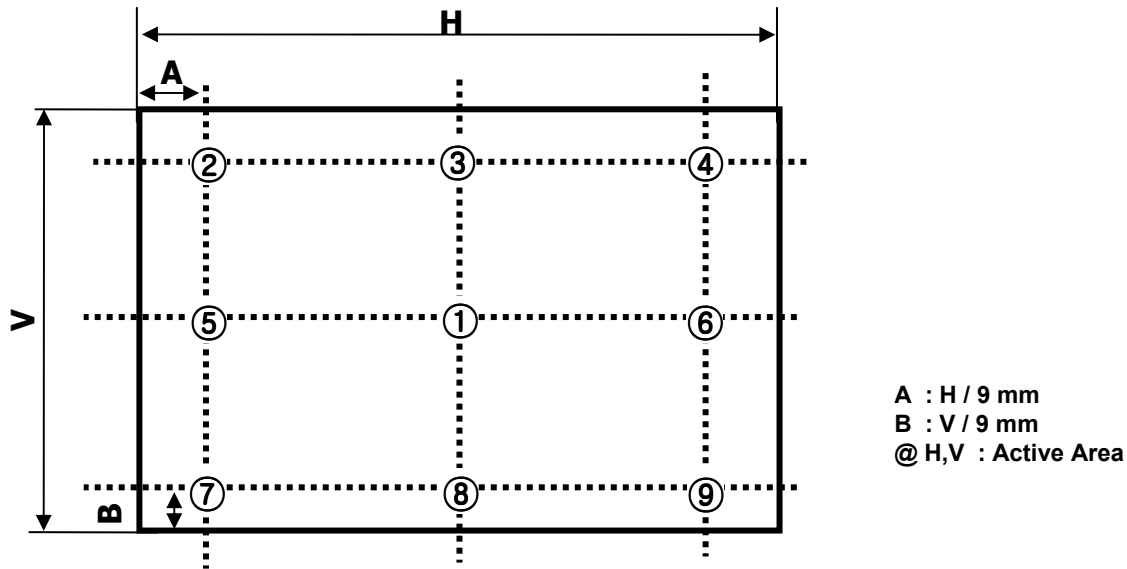

FIG. 10 9 Points for Luminance Measure
2. Surface luminance is determined after the unit has been 'ON' and 1 Hour after lighting the backlight in a dark environment at $25 \pm 2^\circ\text{C}$. Surface luminance is the luminance value at center 1-point across the LCD surface 50cm from the surface with all pixels displaying white. For more information see the FIG. 10.
For more information, see the FIG. 10.